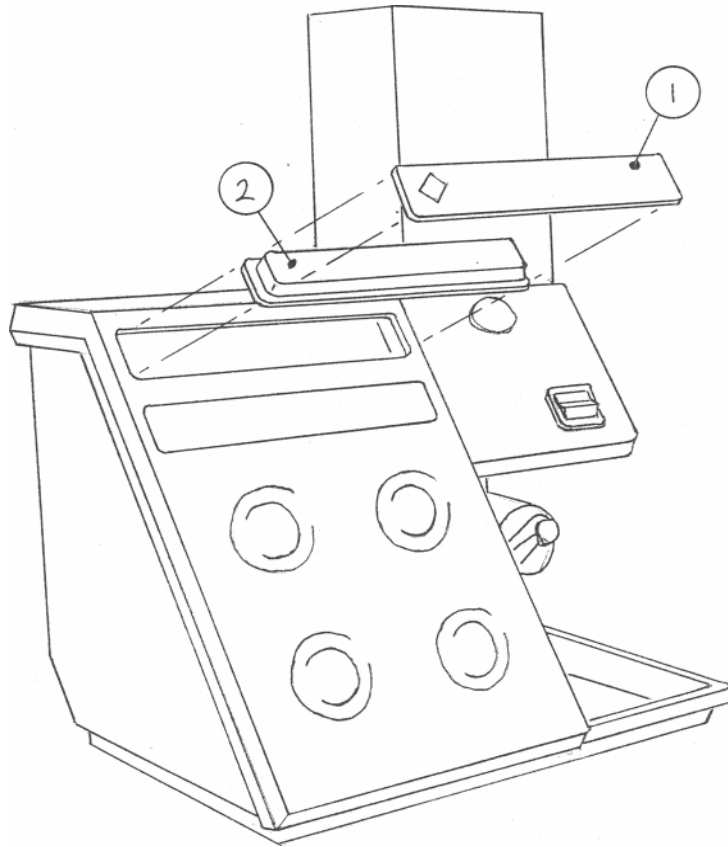

Figure 2.7
a) Fitting a Lineariser (Refer to figure 2.7 attached)